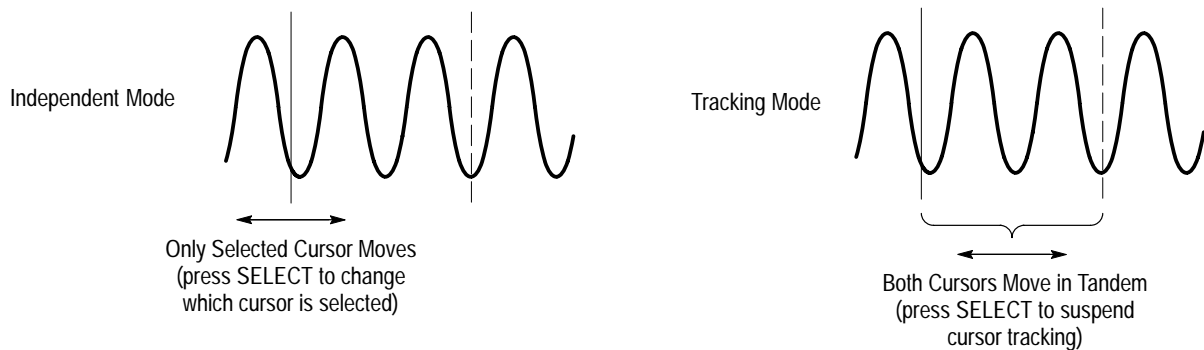

Figure 3–63: Cursor Modes
**Cursor Modes** There are two cursor modes: *independent* and *tracking* (see Figure 3–63).
**H Bars.** The value after  $\Delta$  shows the voltage difference between the cursors. The value after @ shows the voltage of the selected cursor relative to ground (see Figure 3–64). With video triggers, you can display the voltage in IRE units.
**Paired.** The value after one  $\Delta$  shows the voltage difference between the two Xs; the other  $\Delta$  shows the time (or frequency) difference between the two long vertical bars. The value after the @ shows the voltage at the X of the selected cursor relative to ground (see Figure 3–65).